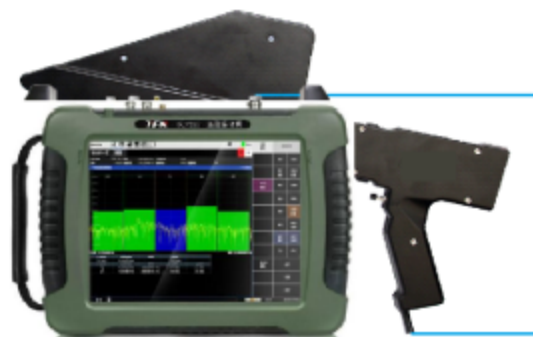

Figure 9.4 Schematic diagram of hand-held DF antenna and RMT series spectrometer
Step 1. Connect the handheld DF antenna to the RMT series spectrometer RF input port and the USB port, as shown in Figure 9.4: